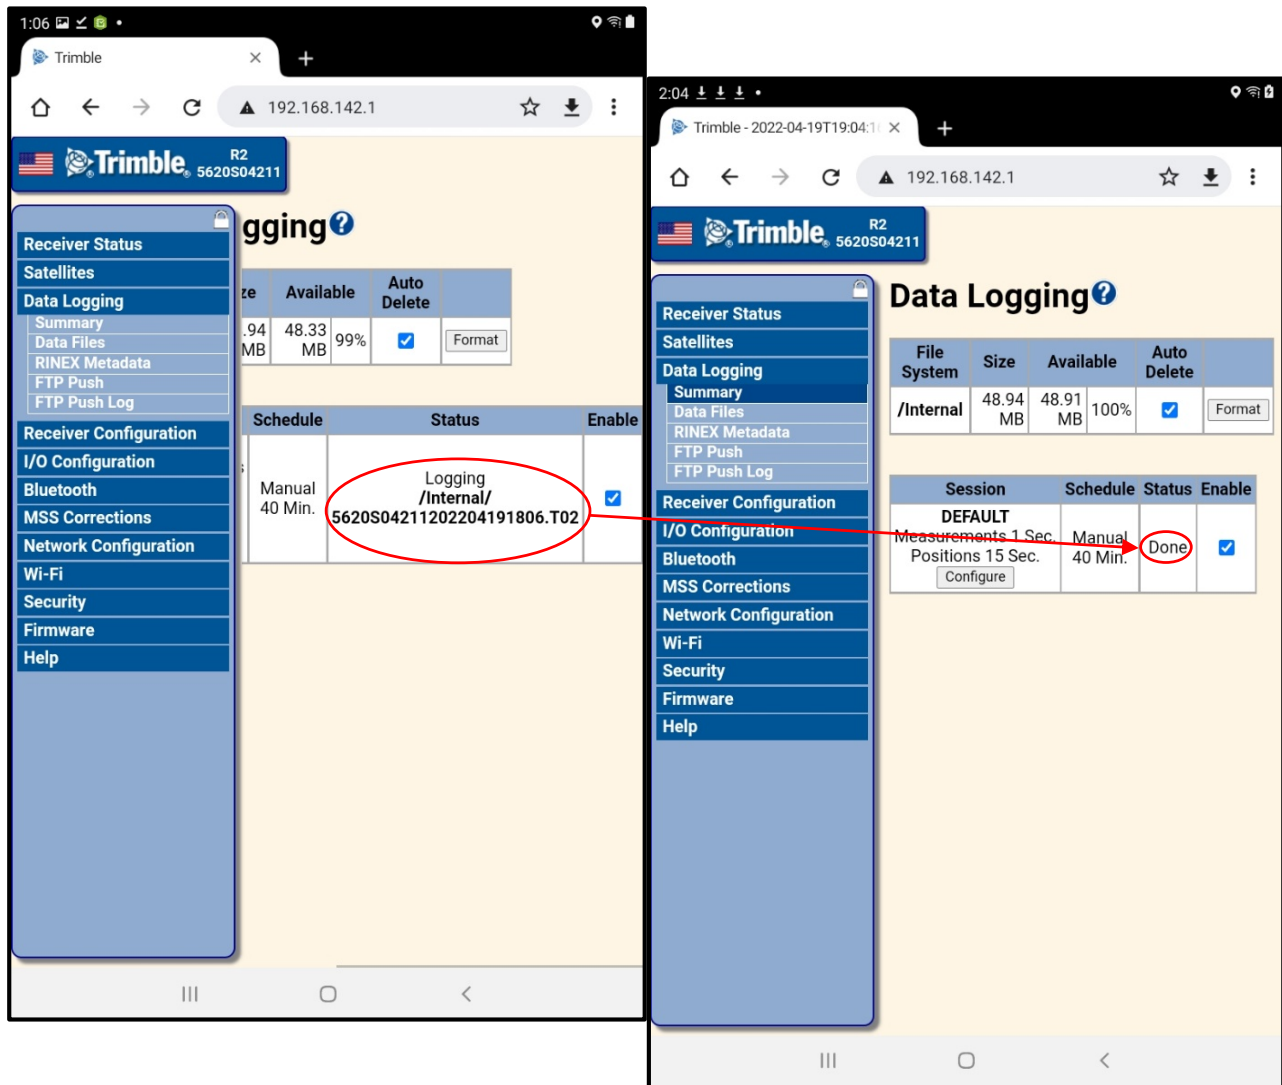

Figure 38. Figure showing Trimble R2 workflow for confirming data has finished logging with red circles and arrows showing the workflow
4. Following Plot Measurements download the GPS file (Figure 38)